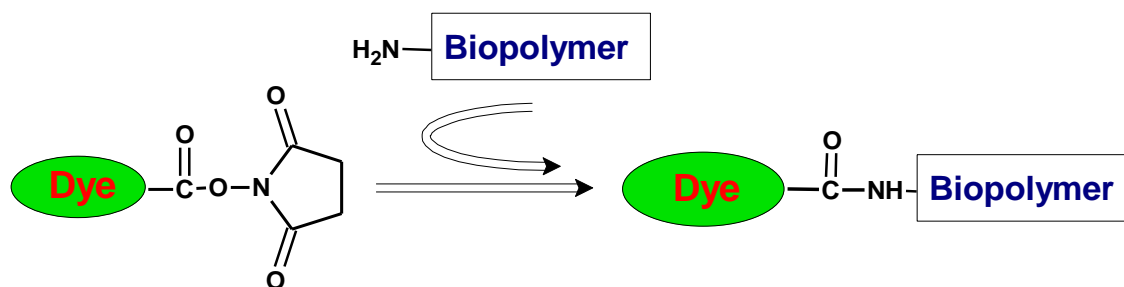

Figure 1. The succinimidyl ester group of fluorophore reacts with amine groups on the protein to form a stable carboxamide bond.
AnaTag™ HiLyte Fluor™ 647 Protein Labeling Kit provides a convenient way to label proteins by using the succinimidyl ester (SE) reactive form of HiLyte Fluor™647. The succinimidyl ester shows good reactivity and selectivity with aliphatic amines of the protein and forms a carboxamide bond, which is identical to, and is as stable as the natural peptide bond (Figure 1). HiLyte Fluor™647-protein conjugates can withstand treatments performed during immunofluorescent staining, fluorescence *in situ* hybridization, flow cytometry and other biological applications without hydrolysis.